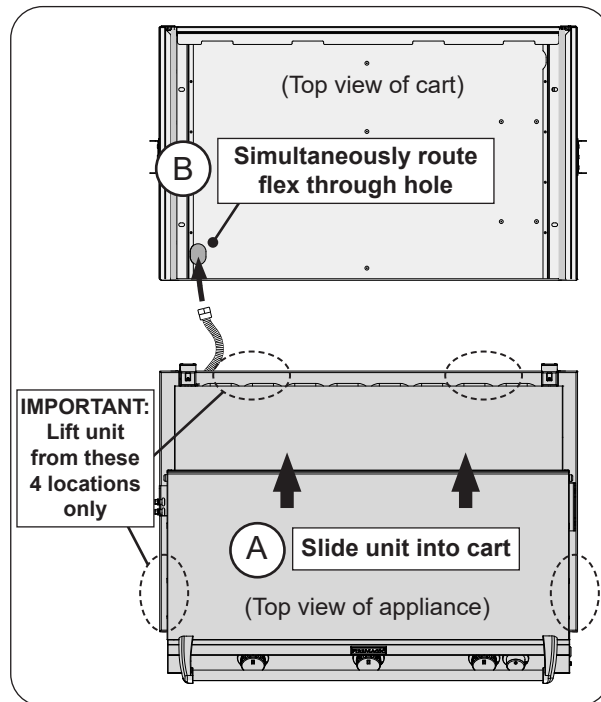

Fig. 11-1 Begin appliance installation
1. Carefully rest the rear end of the appliance over the cart opening and begin to slide the unit inward. **DO NOT SLIDE THE UNIT IN COMPLETELY!** **While installing** (Fig. 11-1, A), be sure to simultaneously route the flex connector downward through the rounded hole on the front left portion of the cavity floor. See Fig. 11-1, B.
Note: Only lift the appliance from the locations indicated on Fig. 11-1. Do not lift the unit from the control panel.